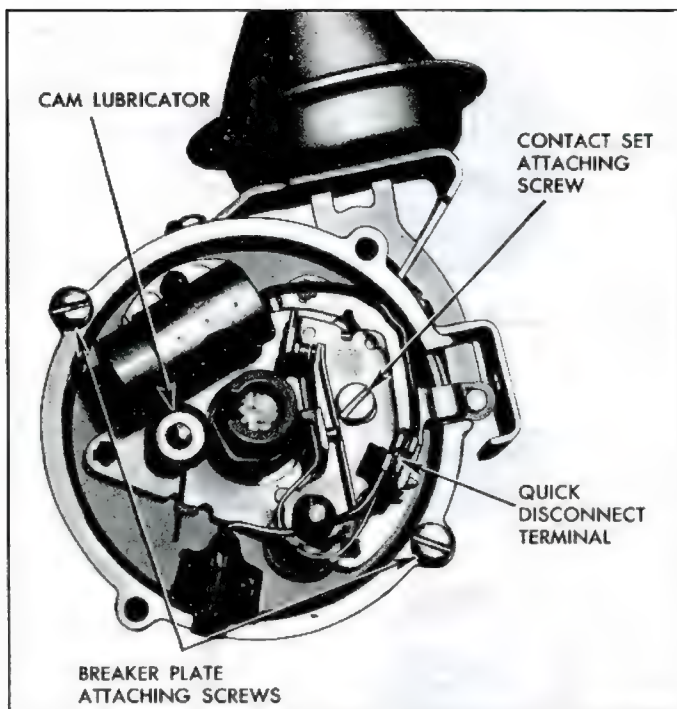

Fig. 2i—Breaker Plate and Attaching Parts
Refer to Figures 2i through 4i
3. Pull primary and condenser lead wires from contact point quick-disconnect terminal (fig. 2i).
4. Remove contact set attaching screw, lift contact point set from breaker plate (fig. 2i).
10. Rotate cam lubricator 90° (fig. 2i).
Refer to Figure 2i
3. Scratch a realignment mark on distributor in line with rotor segment (fig. 2i).
4. Remove breaker plate attaching screws, remove breaker plate from distributor housing (fig. 2i).
5. Position breaker plate assembly in housing and attach retaining screws (See Figure 2i).